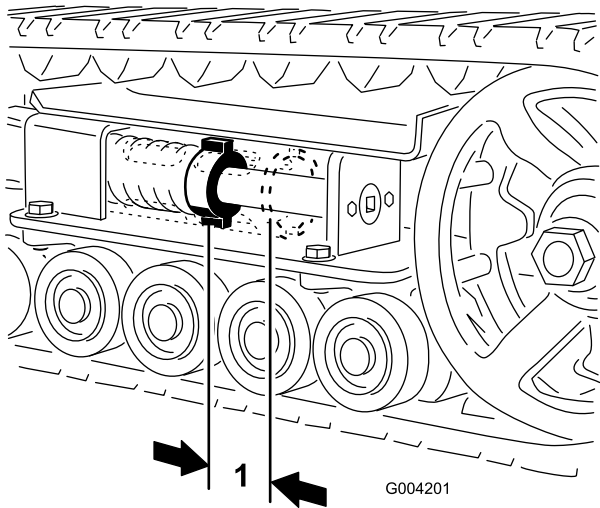

Figure 44
There should be 7 cm (2-3/4 inches) between the tension nut and the back of the tension tube (Figure 44). If not, adjust the track tension using the following procedure:
- Using a 1/2-inch drive ratchet, turn the tensioning screw counterclockwise until the distance between the tension nut and the back of the tension tube (Figure 44) is 7 cm (2-3/4 inches).
12. Turn the tensioning screw counterclockwise until the distance between the tension nut and the back of the tension tube (Figure 44) is 7 cm (2-3/4 inches).
18. Turn the tensioning screw counterclockwise until the distance between the tension nut and the back of the tension tube (Figure 44) is 7 cm (2-3/4 inches).